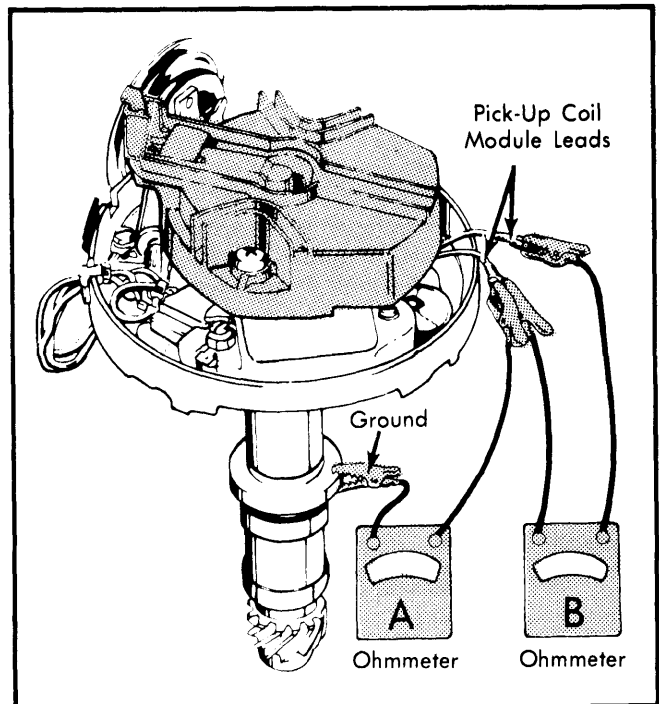

Fig. 7 Distributor Pick-Up Coil Testing Connections
Pick-Up Coil – 1) Connect test stand vacuum source to vacuum advance unit. If vacuum advance unit is inoperative, replace unit. To check pick-up coil for shorts, connect ohmmeter leads as shown by meter "A" in Fig. 7. Set on middle scale of meter. Operate vacuum advance through range. Reading should be infinite at all times. If not, replace pick-up coil.
2) To check pick-up coil resistance, connect ohmmeter leads as shown by meter "B" in Fig. 7. Again use the middle scale. Operate vacuum advance through its range. Ohmmeter reading should be 500-1500 ohms in all advance positions. If readings are not as specified, replace pick-up coil.